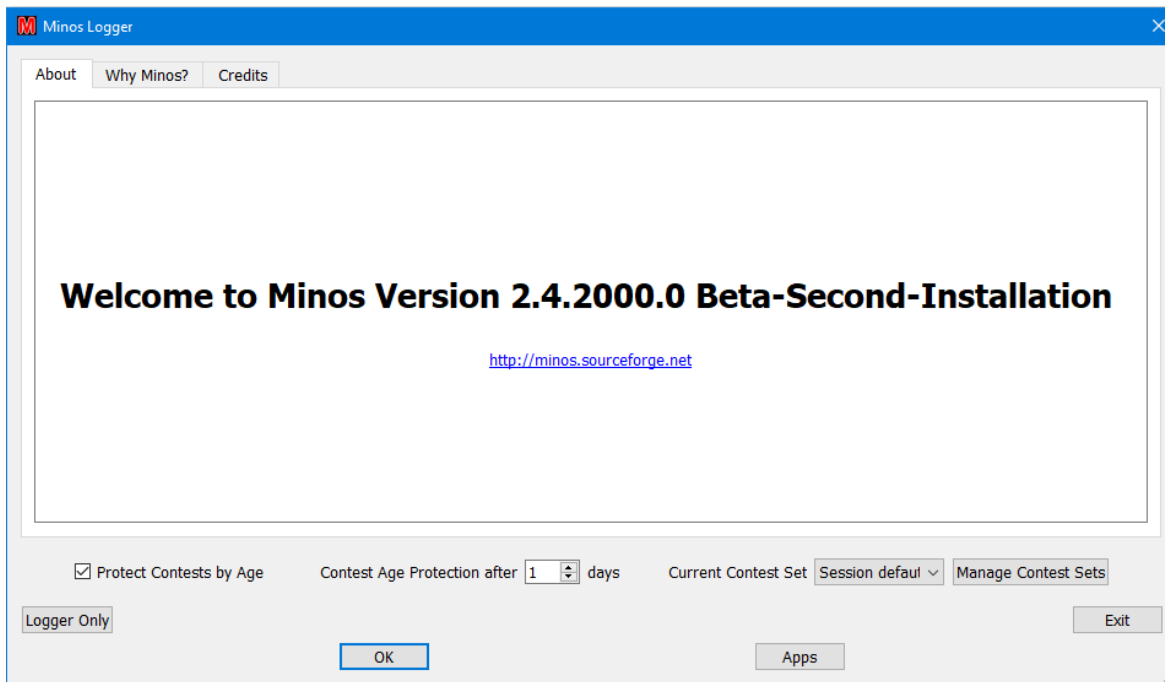

Figure 11 – Welcome screen
- Automatically, after the number of days specified in the **‘Contest Age Protection after’** field on the Welcome screen (see Figure 11) have passed since the end of the contest. If the contest has been age protected then both the **‘Protected’** and **‘Age Protected’** boxes (Figure 16) are set.